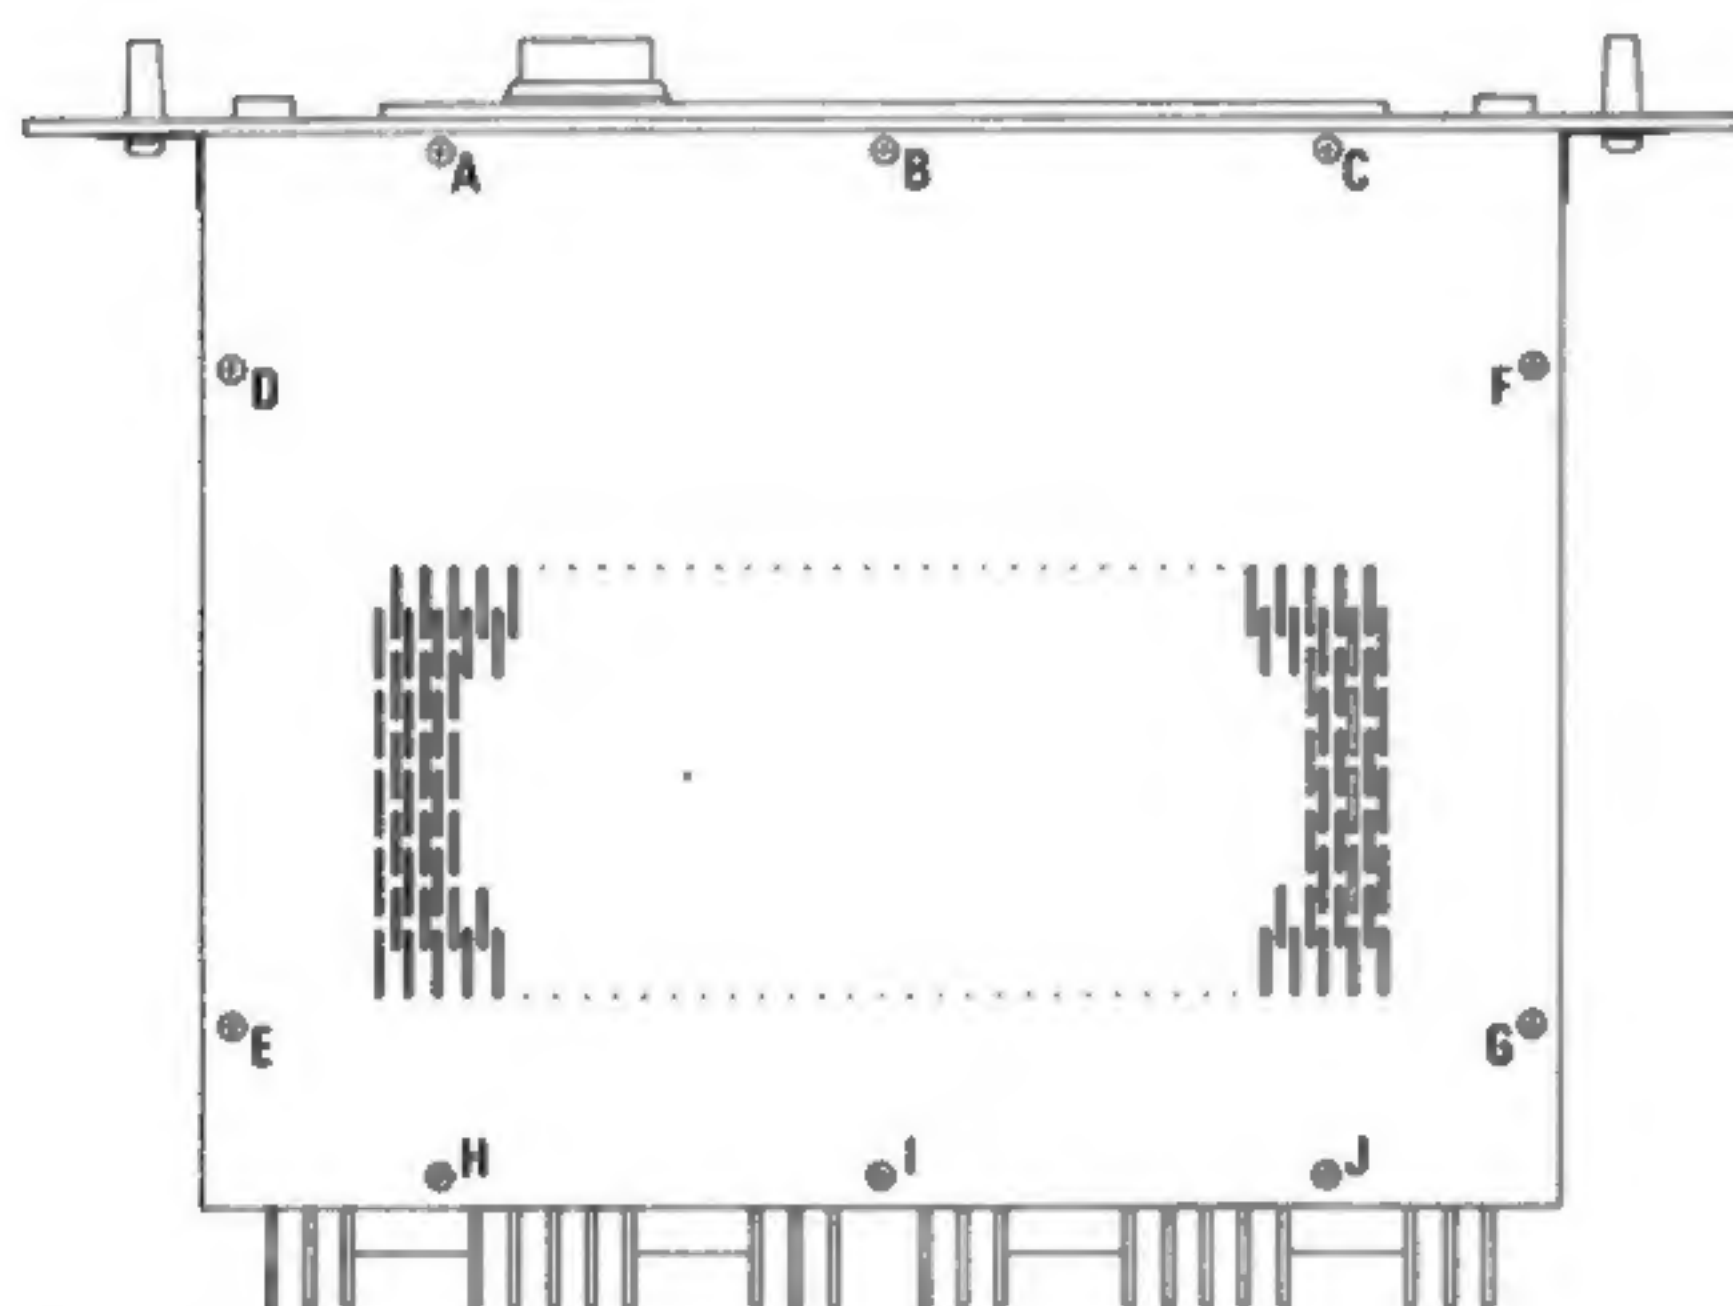

Fig. 1-1 TOPVIEW
1. Remove Top Cover. (Fig. 1-1, remove screws A-J.)